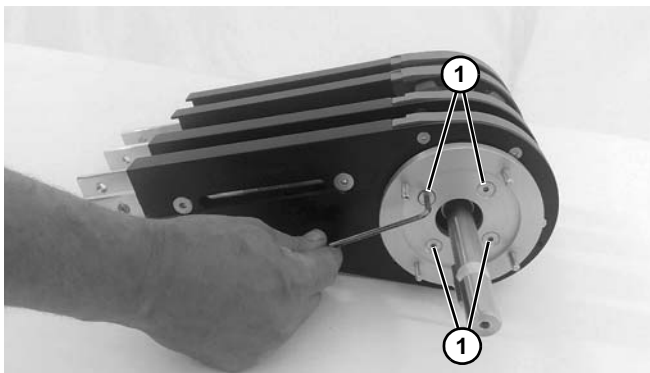

Figure 118
4. Remove four screws (**Figure 118, item 1**) on side of drive spindle.